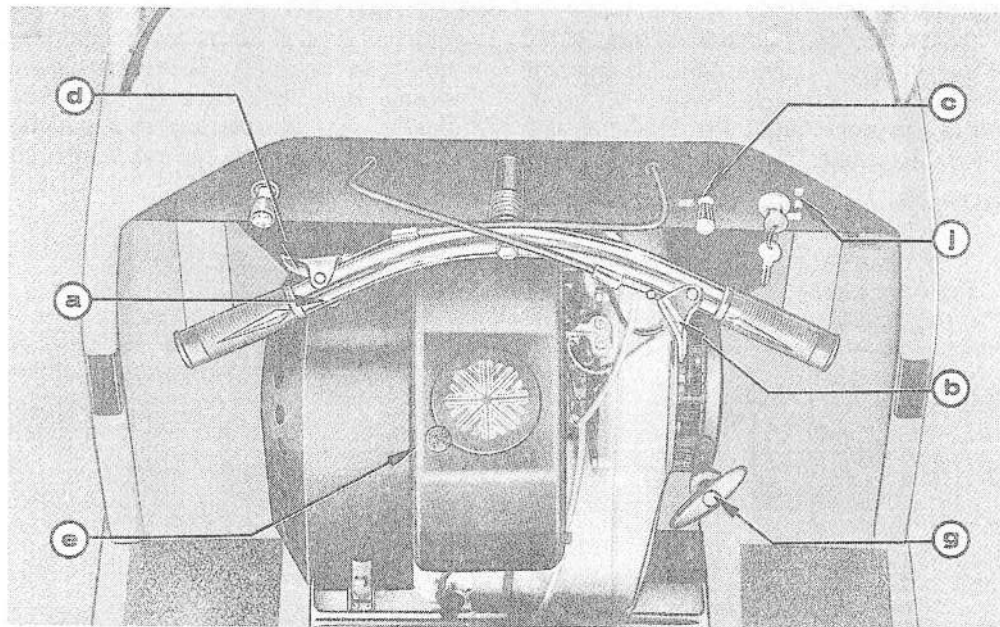

Figure 22
The Alpine Ski-Doo is steered by rotating the handle bars right or left, depending on the direction one wishes to turn. See Fig. 22, item a. All models are equipped with a strong dependable direct-link steering mechanism which activates one single and wider ski.\*
The accelerator handle (hand/thumb operated) is situated on the right hand steering bar. See Fig. 22, item b. When pressed, the throttle increases the speed of the engine and power is transmitted to the tracks. If released, the engine will return to idle speed.
The brake lever (hand/thumb operated) is positioned on the left hand side of the steering bar. See Fig. 22, item d. A reliable self-adjusting disc brake with floating caliper permits secure driving and full control of the machine at all times. When the brake lever is pressed, the disc mechanism cuts down the speed of the Ski-Doo.
The choke knob, located on top of the carburetor cover, should be pulled open when starting a cold engine. When used, the choke reduces the air flow through the carburetor and permits easier starts. See Fig. 22, item e.
The manual start model (Alpine 370) is equipped with a key-operated double-contact ("OFF" and "ON") ignition switch, situated on the right of the dashboard. See Fig. 22, item j.
**NOTE:** *The triple-contact ("OFF", "ON" and "START") ignition switch used on the 370/e and 640/e models is located as in Fig. 22, item j. The "START" position is spring-loaded and activates the starter mechanism.*
Every Ski-Doo (manual or electric) is equipped with an automatic rewind type manual starter, located on the flywheel side of the engine. See Fig. 22, item g.
Alpine models come with a fixed headlamp, built-in with the fiberglass hood, therefore no guide plate nor light control lever is required. Simply pull on the light button, located on the right hand side of the dashboard, and both head and tail lights come on. See Fig. 22, item c.